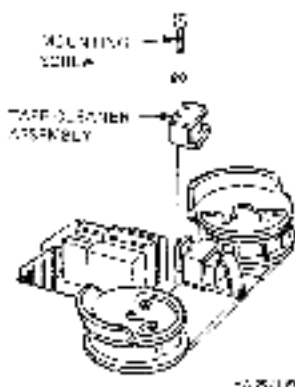

Figure 4-3 Tape Cleaner
2. Loosen two pan-head mounting screws and remove tape cleaner assembly from tape deck (Figure 4-3).